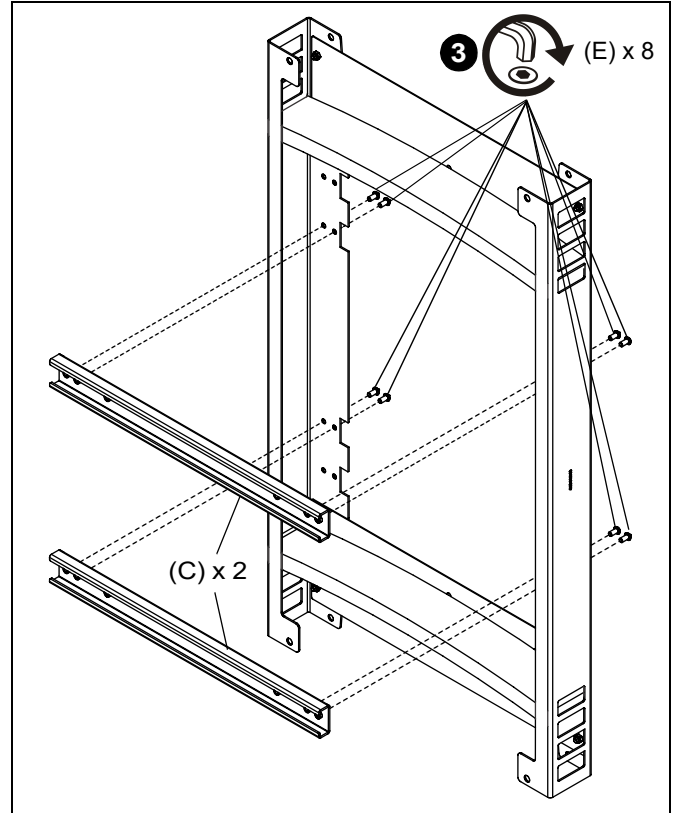

Figure 2
3. Use eight M8 x 20mm button head cap screws (E) to attach two cross bars (C) between side plates in desired mounting positions. (See Figure 2)